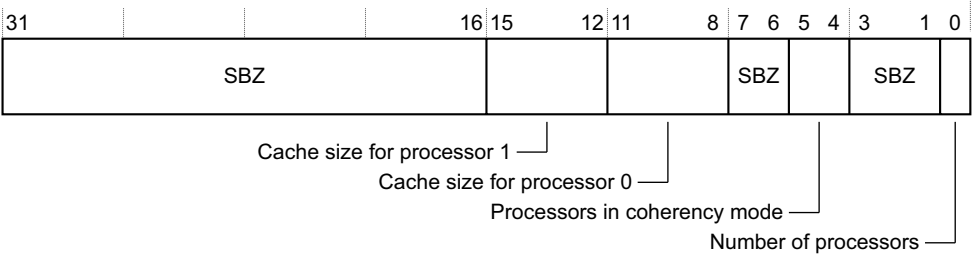

Figure 9-3 SCU Configuration Register bit assignments
- Figure 9-3 shows the SCU Configuration Register bit assignments.